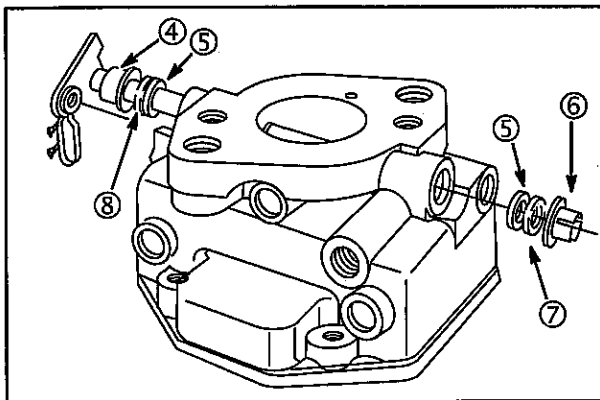

Fig. 107
3. Install new throttle shaft seals (5) with sealing lip out, **Fig. 107**.
4. Install throttle shaft with spacer (4) and foam seal (8).
5. Install foam seal (7) and retainer (6).